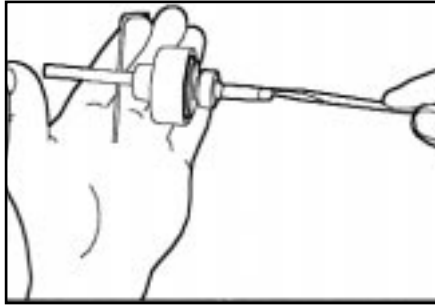

Figure 19
8. Put 7/64" Allen wrench through the hole in the upper poppet stem. (Fig.19)
9. Use a flat blade screwdriver to unscrew the lower poppet stem. (Fig.19)
15. P04-6S/8S: Use a flat blade screwdriver to unscrew the lower poppet stem. (Fig.19)